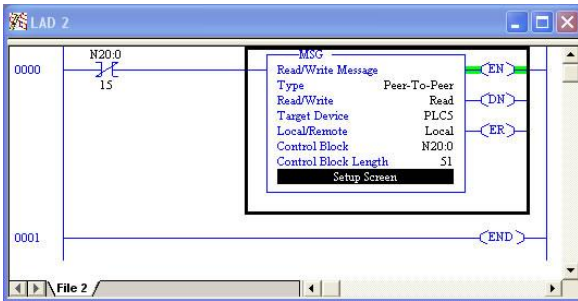

Figure 68: Completed PLC Program
7) The program is now complete. Refer to Figure 68.